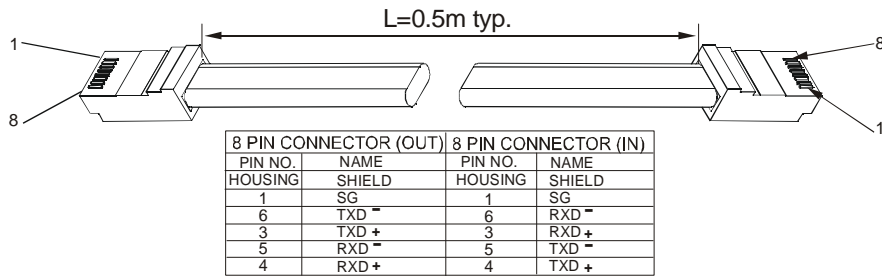

Fig.7-6: Serial link cable with RJ-45 shielded connectors (P/N: GEN/RJ-45)
- Using the Linking cable supplied with each unit (refer to Fig. 7-6), connect each unit OUT connector to the next unit IN connector.